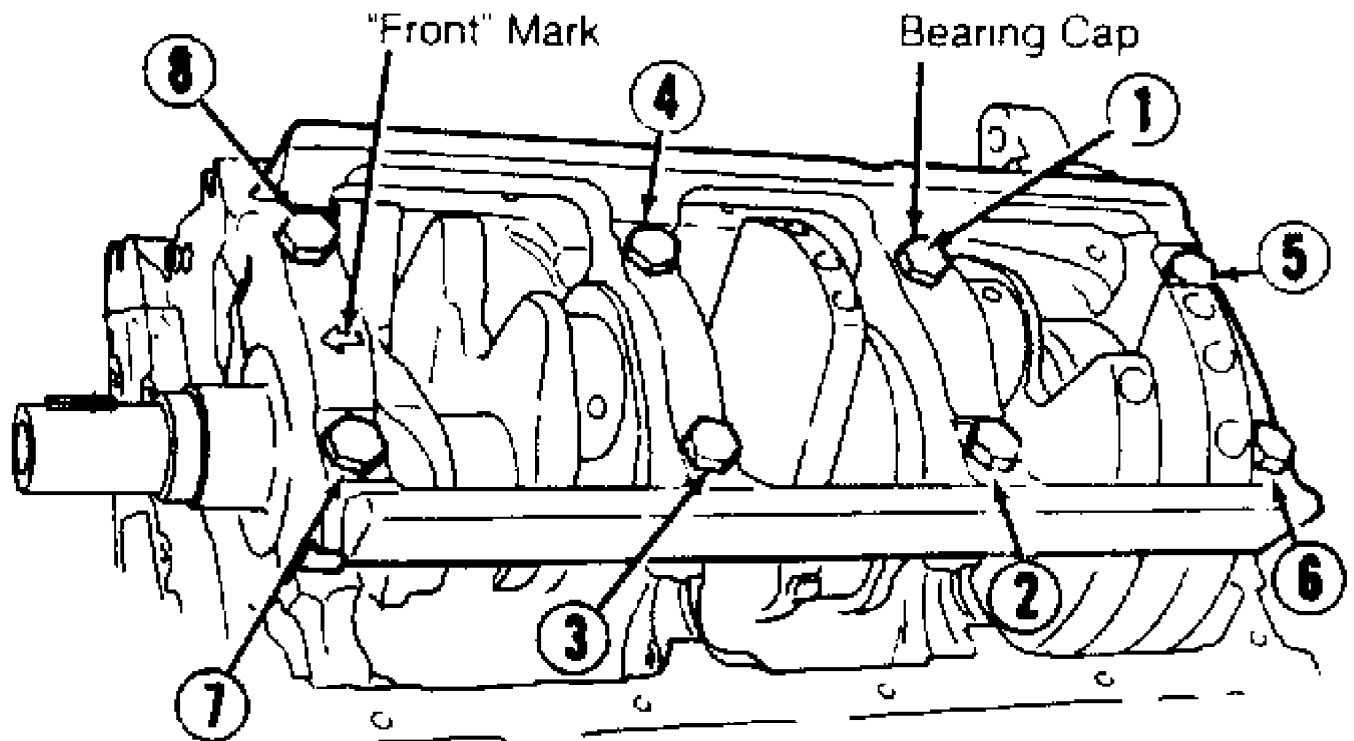

Fig. 14: Tightening Sequence For Main Bearing Cap Bolts
- 2) Remove connecting rod caps and bearings. Note direction of arrow on main bearing cap. Remove main bearing cap. See Fig. 14. Remove crankshaft. Remove main bearings from cylinder block. Mark bearings for location.
- 6) Measure oil clearance using Plastigage. Tighten bolts to specification in proper sequence. See Fig. 14. See TORQUE SPECIFICATIONS TABLE at the end of this article. Clearance must be within specification. See CRANKSHAFT, MAIN & CONNECTING ROD BEARINGS table. If oil clearance is not within specification, replace bearings or crankshaft.